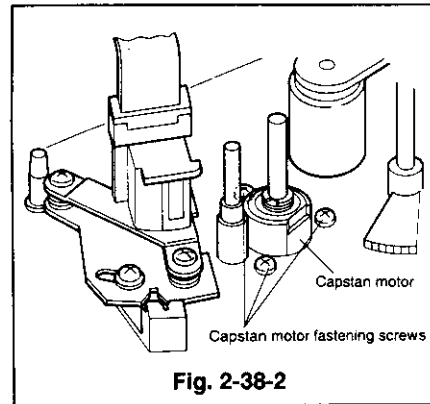

Fig. 2-38-2
- ③ Turn the deck the right side up, remove the three screws shown in Fig. 2-38-2 to remove the capstan motor.
- ① Reverse the deck, position the capstan motor so that the capstan brake is on the outside of the capstan motor.
- ② Turn the deck the right side up, secure the capstan motor with the three screws shown in Fig. 2-38-2.